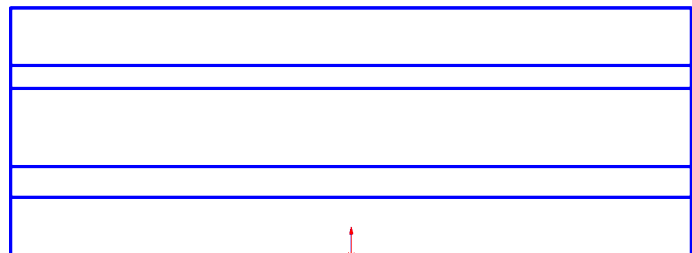

Fig. 4
Step 7. Click **Line**  (L) on the Sketch toolbar.
Step 8. Sketch **4 horizontal lines across rectangle**. Double click to terminate the chain of lines, **Fig. 4**.